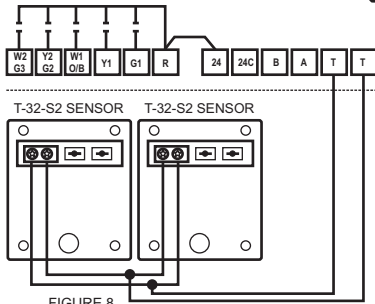

FIGURE 8
Figure 8 shows (2) T-32-S2 sensors used for For three sensors, (1) T-32-S2 and (2) T-32-S1 sensors can be wired in series / parallel. For four sensors, (4) T-32-S1 sensors can be wired in series / parallel. Both of these configurations can be used with or without the thermostat onboard sensor. To include the onboard sensor, TT=AV. To exclude the onboard sensor, TT=RS.